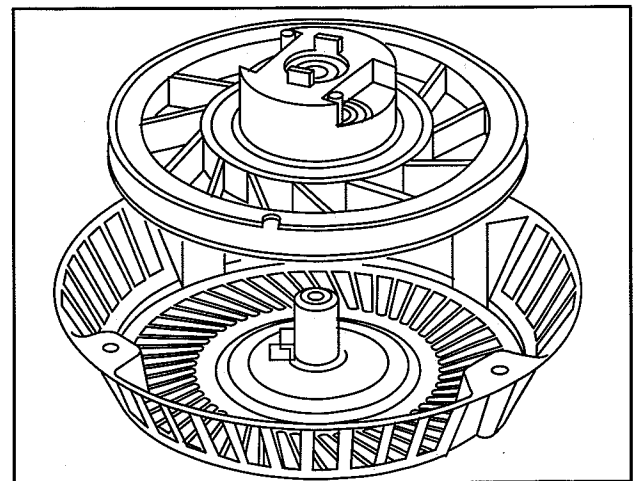

Fig. 9 – Remove Pulley And Spring
5. Carefully lift out pulley with spring, Fig. 9.